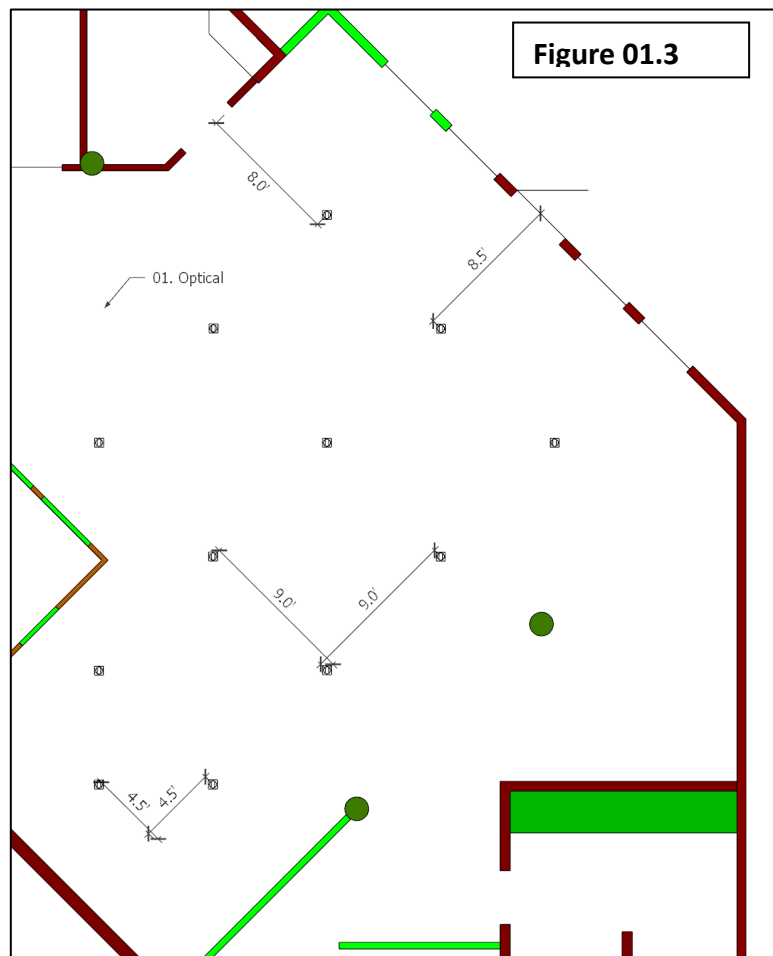

Figure 01.3
- c. Install power outlets in floor: <https://a.co/d/5vDtpYT> or functional equivalent flush-mount combined power/data port with cover. Nickel finish to depend on flooring color. See layout in Figure 01.3, approximate distances from walls may be adjusted as needed, but prefer 9' spaced floor grid as shown. Single extra floor outlet in southern section of optical at tighter 4.5x4.5' spacing as shown